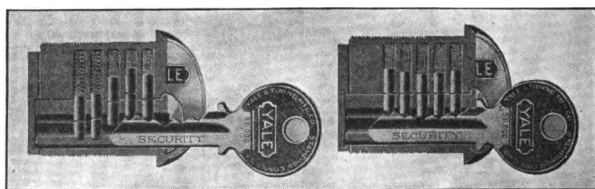
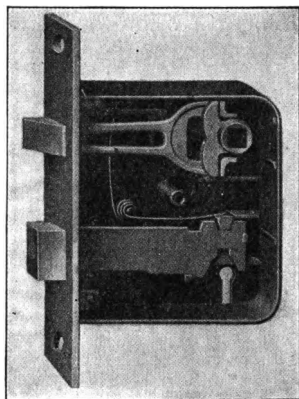

FIG. 271.—A YALE LOCK
FIG. 272.—DOOR LOCK
4. Name all the different forms of simple machines you can find in the action of the Yale lock (Fig. 271); the lawn mower; the door lock and latch (Fig. 272).